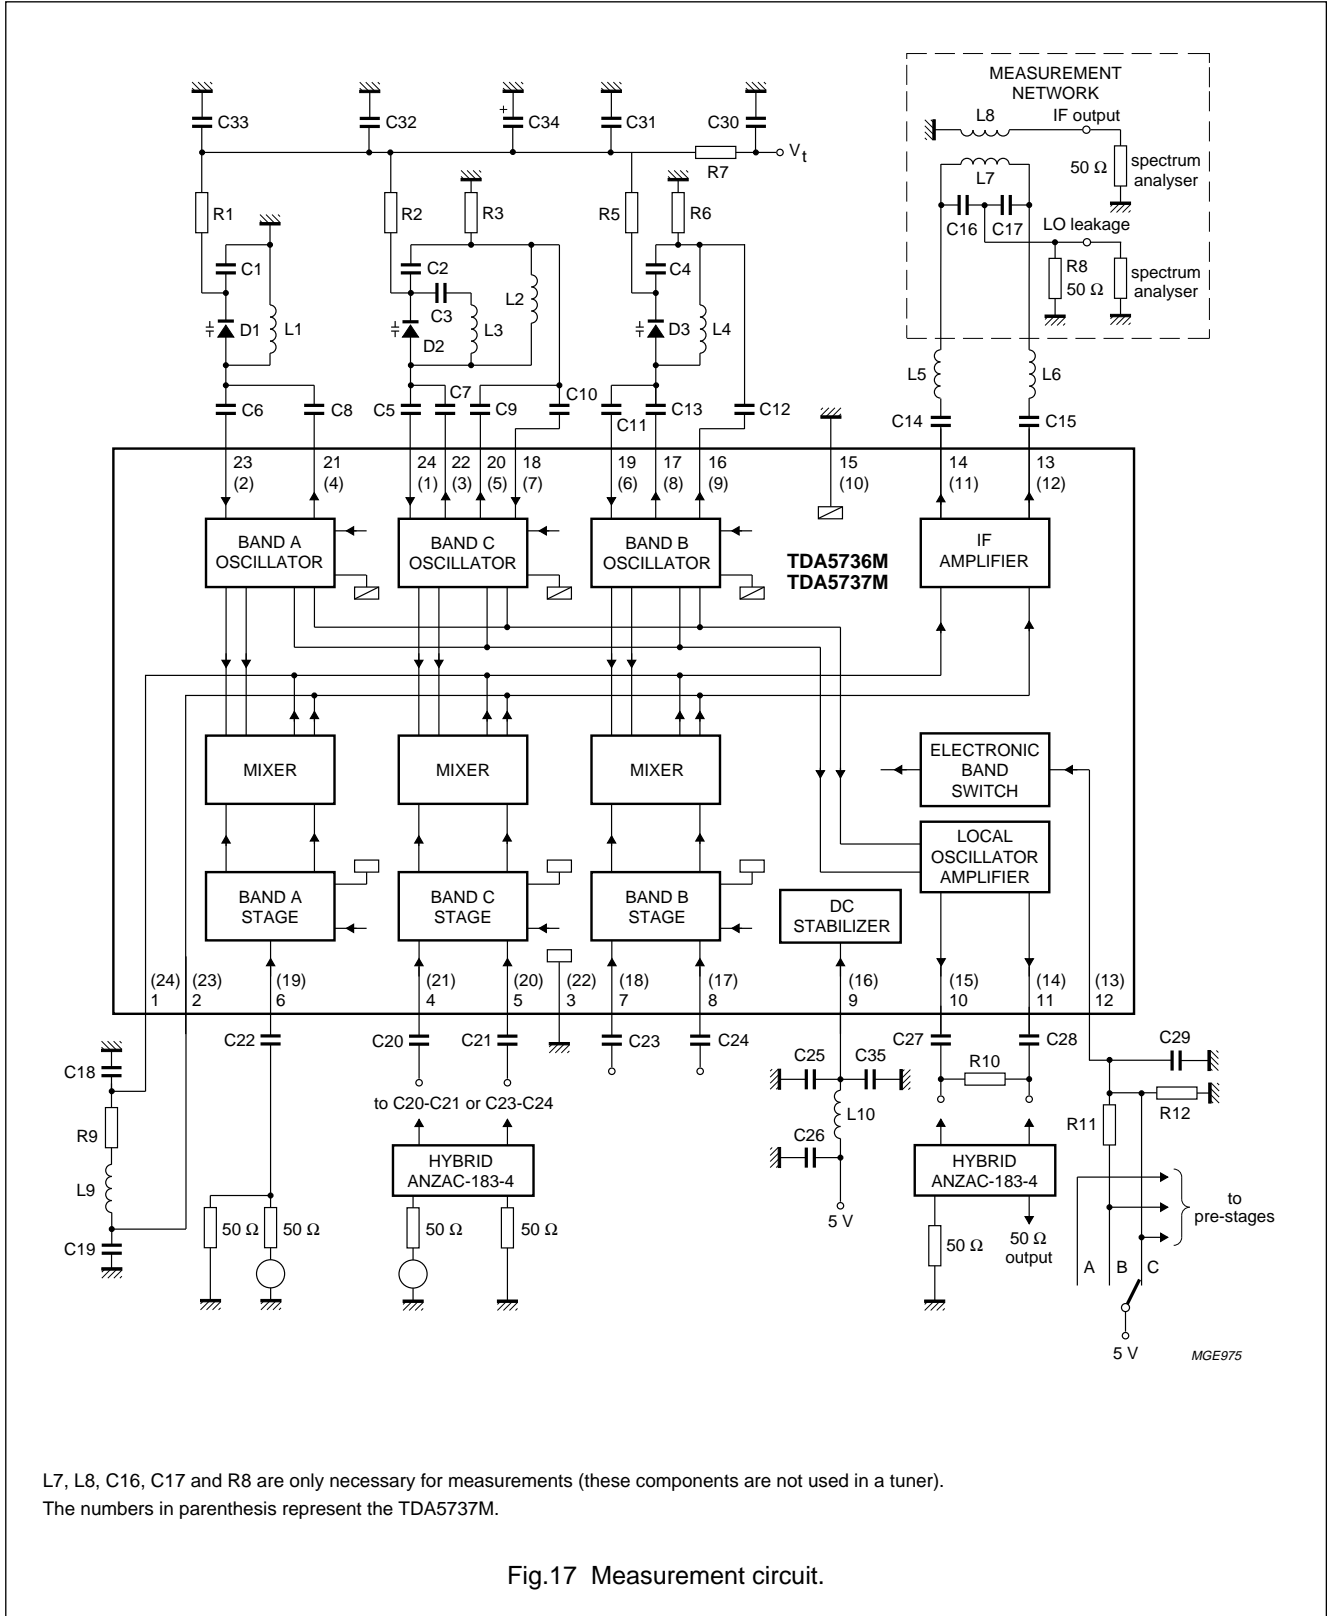

Fig.17 Measurement circuit.
- The gain is defined as the transducer gain (measured in Fig.17) plus the voltage transformation ratio of L7 to L8 (10 : 2, 15.4 dB including transformer loss).
- Limits are related to the tank circuits used in Fig.17. Frequency bands may be adjusted by the choice of external components.
**Table 1** Capacitors of Fig.17
**Table 2** Resistors of Fig.17 (all SMD)
**Table 3** Diodes, coils and transformers of Fig.17